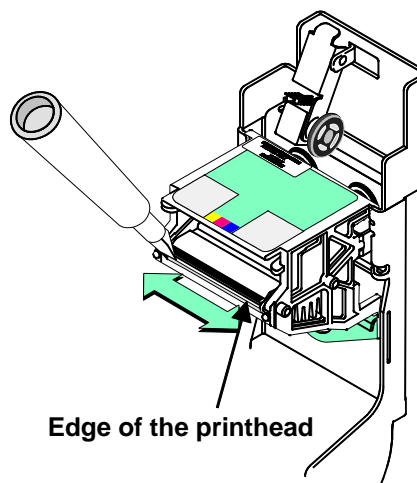

Figure 4-15: Clean the printing surface of the printhead
- 5 Using gentle pressure, move the cleaning pen back and forth along the full length of the printhead edge (see Figure 4-15). Be sure to clean the rounded edge of the printhead completely.
- 7 Clean the printhead. Move the cleaning pen back and forth along the length of the printhead edge. (See Figure 4-15 on page 4-15.) Be sure to completely clean the rounded edge of the printhead.